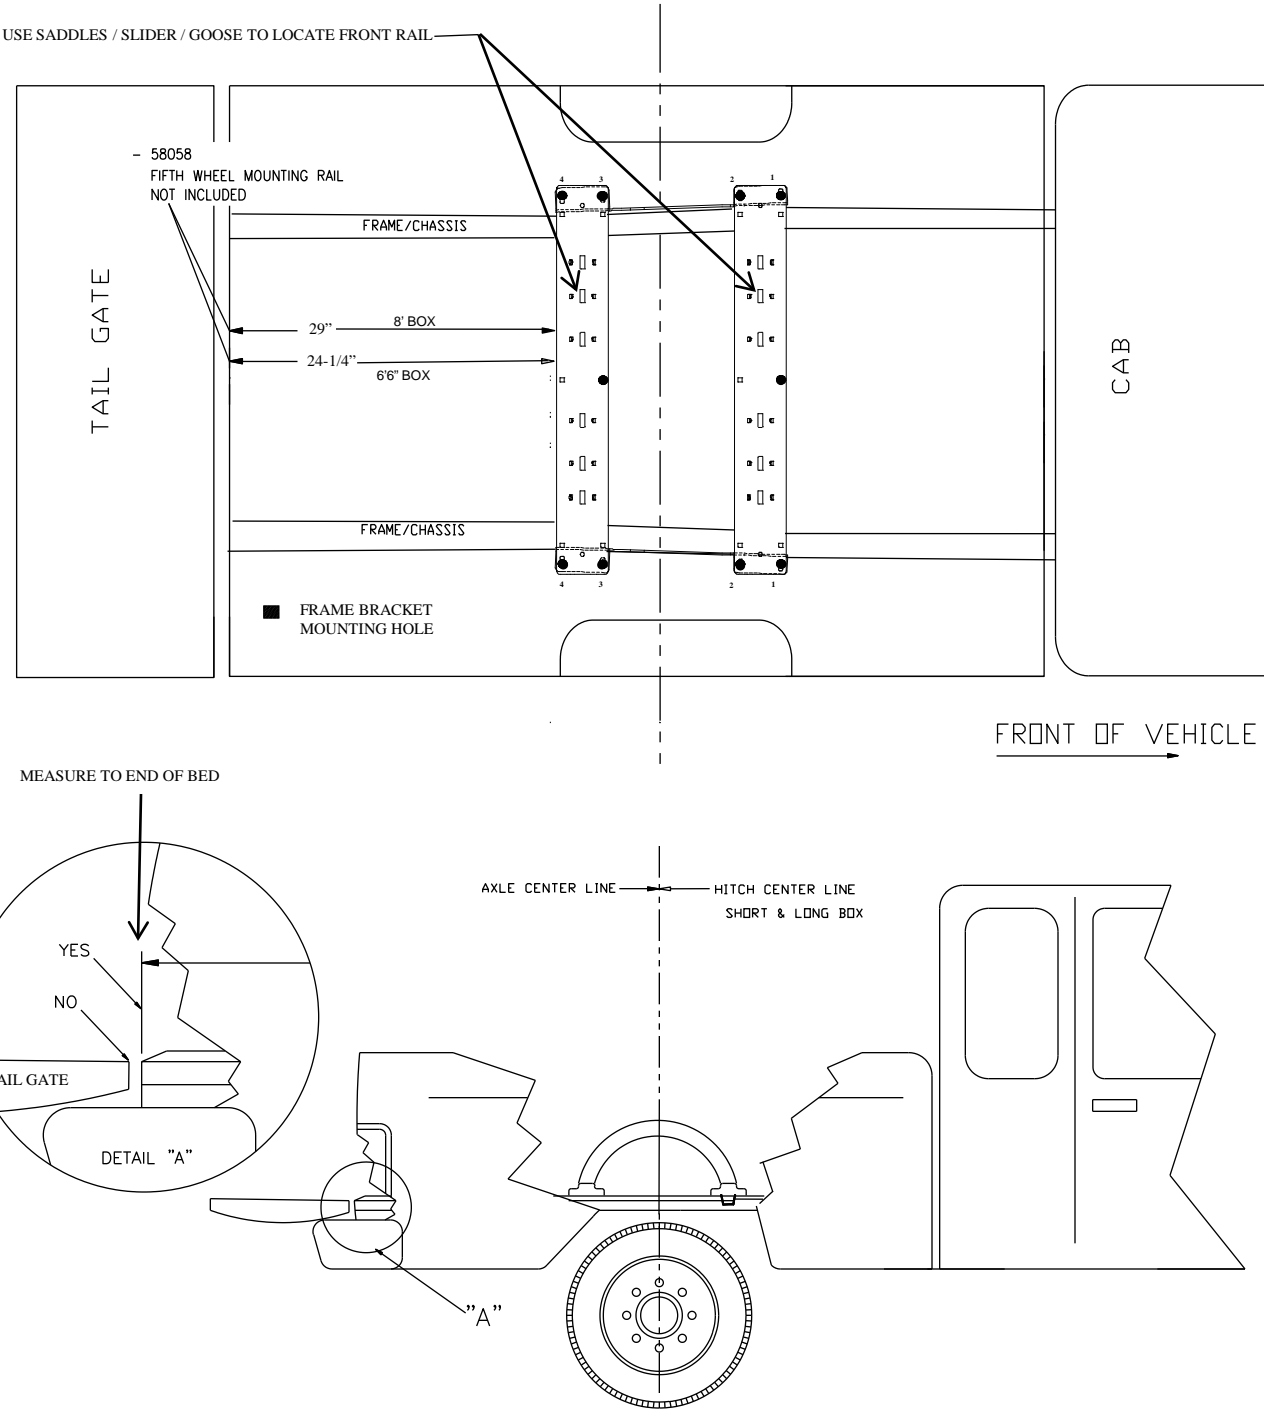

Figure 2
5. Place one mounting rail in the bed of the vehicle. Center the rail on the floor of the truck bed and use your tape measure to locate the proper distance from the rail to the rear edge of the truck box as illustrated on page 2, Figure 2.
6. Use a center punch to mark the holes in the rail per the illustration. Use the first hole from the outside as shown in Figure 2. Move the rail out of the way and drill each position with a 1/8" drill bit.
12. Use a center punch to mark the holes in the front rail as per the illustration. Use the outside holes as shown in Figure 2. Move the rail out of the way and drill each position with a 1/8" drill bit. Check that the 1/8" drilled holes align with the slots in the frame brackets. If not, re-position the 1/8" holes.
15. Use a center punch to mark the holes in the center bolt hole locations shown in fig. 2. Drill a 9/16" hole through the bed. The 1/2" x 2" carriage bolts will be inserted down through the rail and the bed. Install 5/16" thick U-shaped blocks, 1/2" serrated washers, and nuts on the bolts. Finger tighten the nuts.